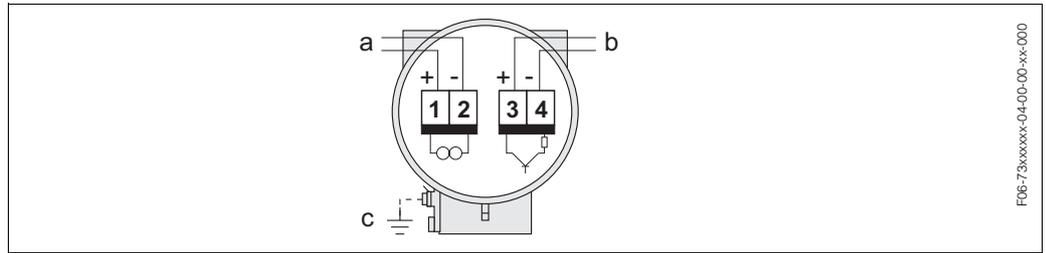

Fig. 17: Assignment of terminals
6. Pull the terminal connector (g) out of the transmitter housing and connect the cable for the power supply/current output (see → Fig. 17).
Optional: Pull terminal connector (h) out of the transmitter housing and connect the cable for the frequency output (see → Fig. 17).
8. Only remote version: Secure the ground cable to the ground terminal (see Fig. 17, c).
5. Pull the terminal connector (g) out of the transmitter housing and connect the cable for the power supply/current output (see → Fig. 17).
7. Only remote version: Secure the ground cable to the ground terminal (see Fig. 17, c).